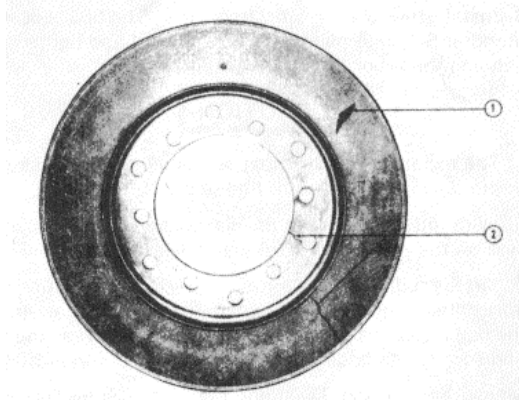

Figure 16C-22. Inspect the Viscous Damper
1. Check the damper for defects as in 1 and 2, Figure 16C-22. Discard if these defects show up.